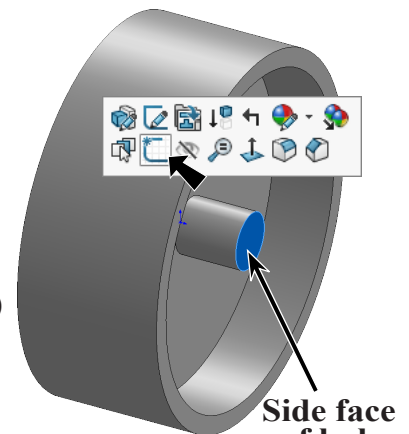
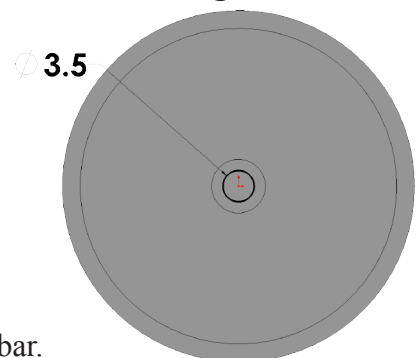

Fig. 9
Fig. 10
Step 1. Click the **side face of hub** and click **Sketch**  on the Context toolbar, **Fig. 9**.
Step 3. Click **Circle**  (S) on the Sketch toolbar.
Step 4. Draw a circle for the hole at Origin , **Fig. 10**.
Step 5. Click **Smart Dimension**  (S) on the Sketch toolbar.
Step 6. Dimension axle hole **diameter 3.5**, **Fig. 10**.